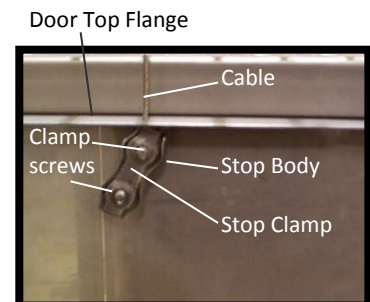

Figure 68: Cable Stop
2. With a 13/32 in. wrench, loosen the two clamp screws on the cable stop (Figure 68) and open the clamp.
5. Pass the end of the cable down through the hole in the center of the upper door flange (Figure 68).